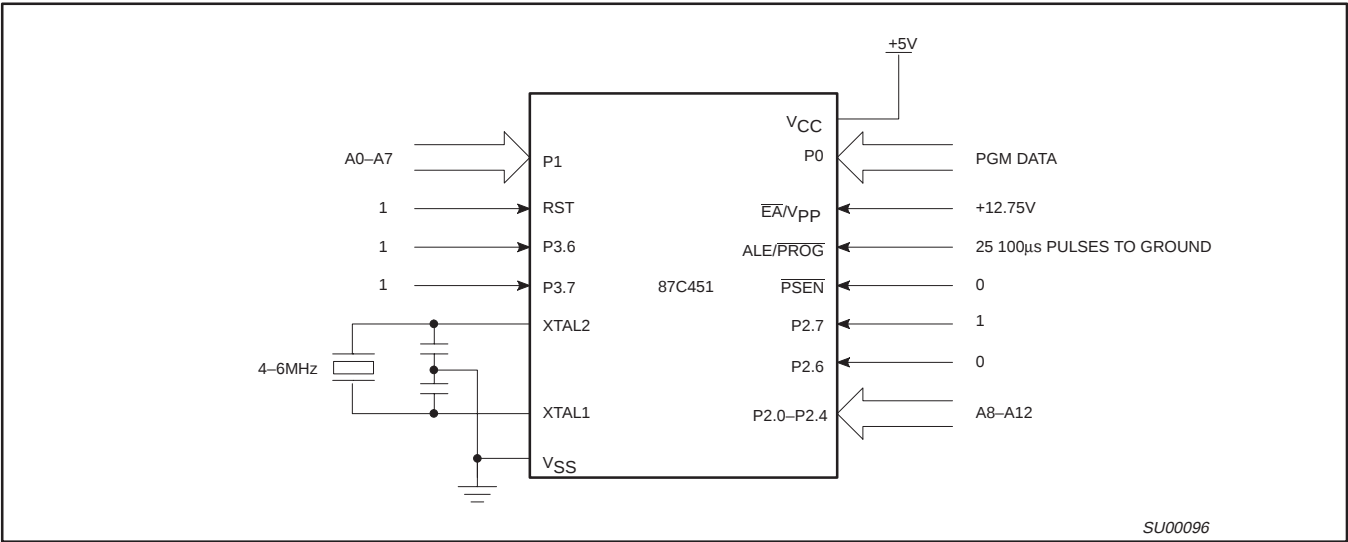
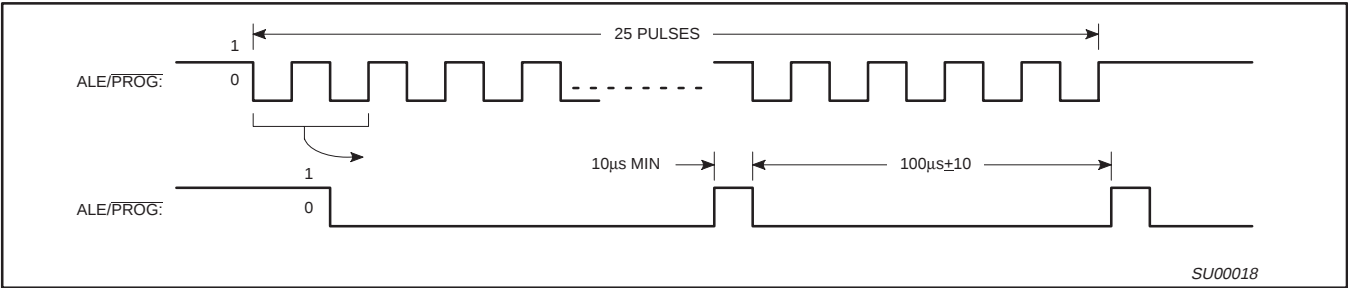
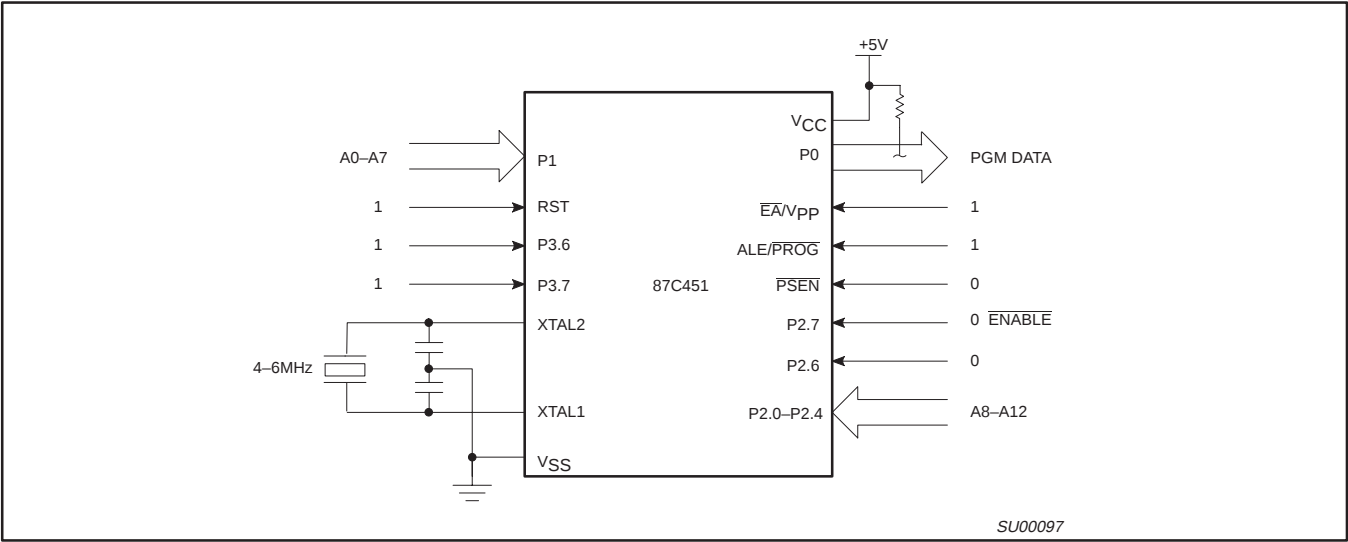

Figure 18. Programming Configuration
Figure 19. PROG Waveform
Figure 20. Program Verification
Table 4 shows the logic levels for reading the signature byte, and for programming the program memory, the encryption table, and the lock bits. The circuit configuration and waveforms for quick-pulse programming are shown in Figures 18 and 19. Figure 20 shows the circuit configuration for normal program memory verification.
The setup for microcontroller quick-pulse programming is shown in Figure 18. Note that the 87C451 is running with a 4 to 6MHz oscillator. The reason the oscillator needs to be running is that the device is executing internal address and program data transfers.
The address of the EPROM location to be programmed is applied to ports 1 and 2, as shown in Figure 18. The code byte to be programmed into that location is applied to port 0. RST, $\overline{PSEN}$ and pins of ports 2 and 3 specified in Table 4 are held at the 'Program Code Data' levels indicated in Table 4. The ALE/PROG is pulsed low 25 times as shown in Figure 19.
If lock bit 2 has not been programmed, the on-chip program memory can be read out for program verification. The address of the program memory locations to be read is applied to ports 1 and 2 as shown in Figure 20. The other pins are held at the 'Verify Code Data' levels indicated in Table 4. The contents of the address location will be emitted on port 0. External pull-ups are required on port 0 for this operation.
- * FOR PROGRAMMING VERIFICATION SEE FIGURE 18.
FOR VERIFICATION CONDITIONS SEE FIGURE 20.